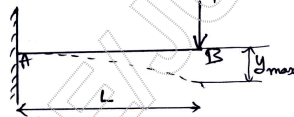

Fig.Q2(b)
- b. A cantilever beam of span 'L' is subjected to a point load at its free end as shown in Fig.Q2(b). Derive an equation for the deflection at free end by using RR method. Assume polynomial displacement function.